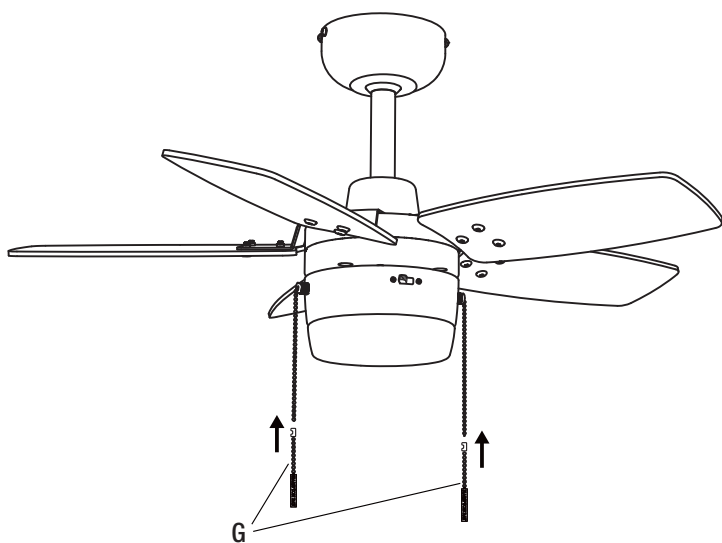

Figure 14
- Attached the pull chain extensions (G) provided to the fan and light kit pull chain. (Figure 14)